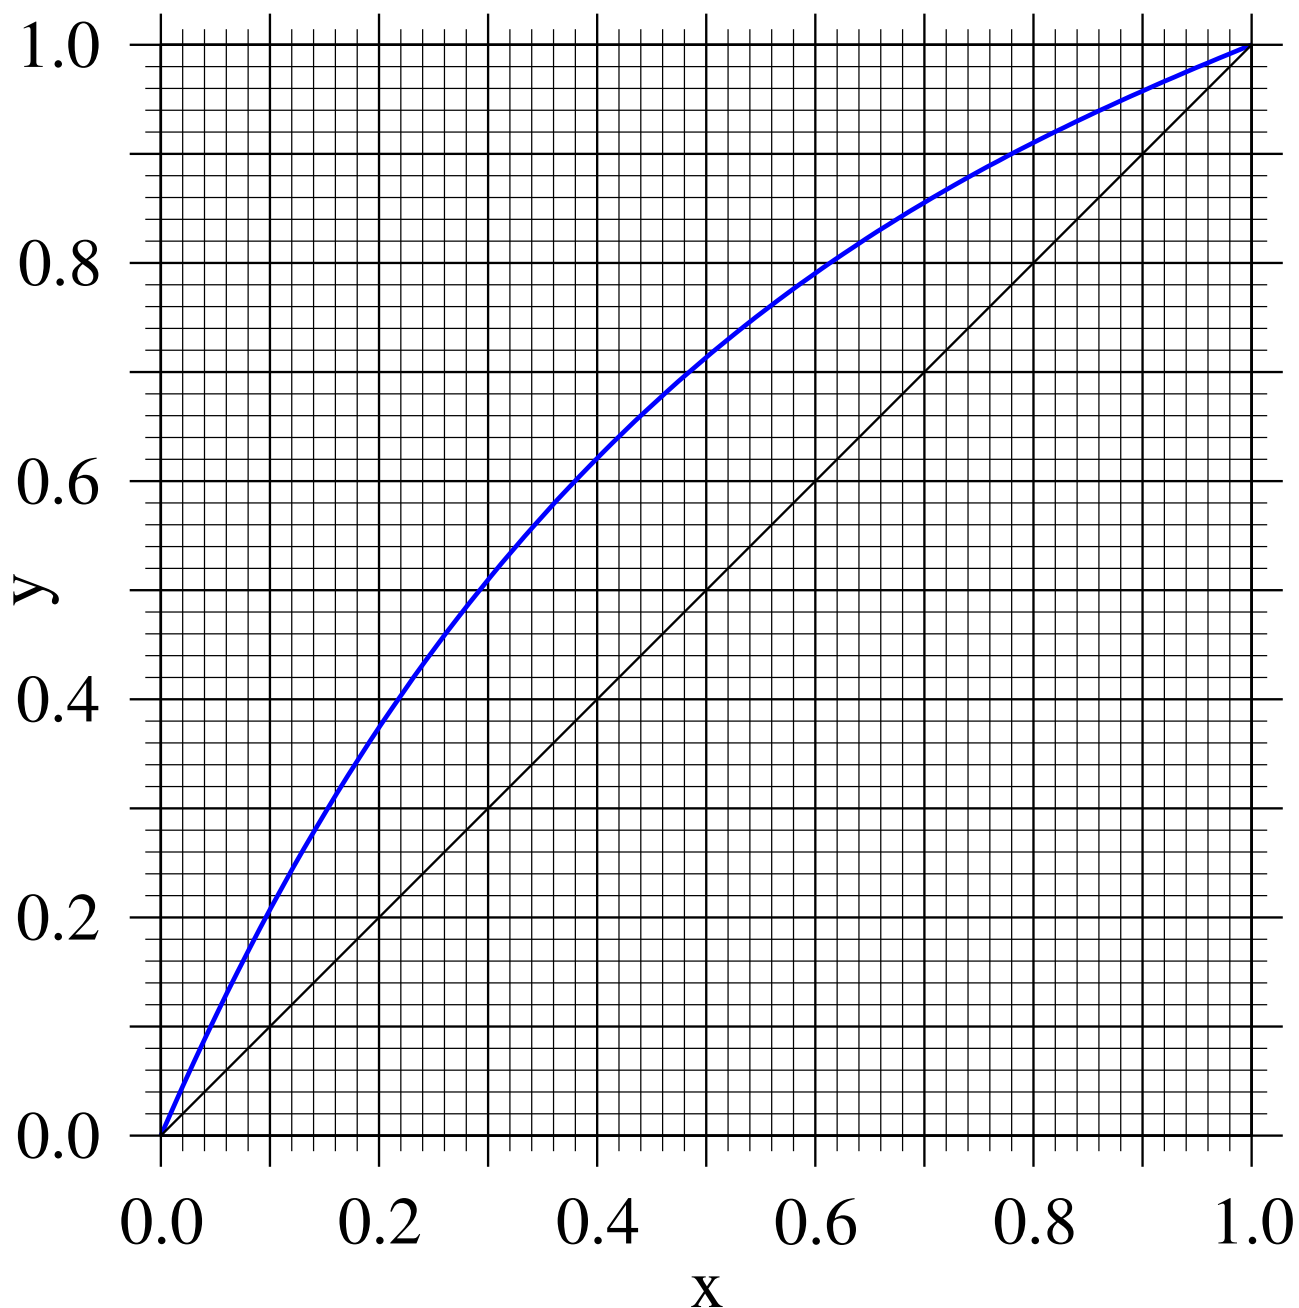
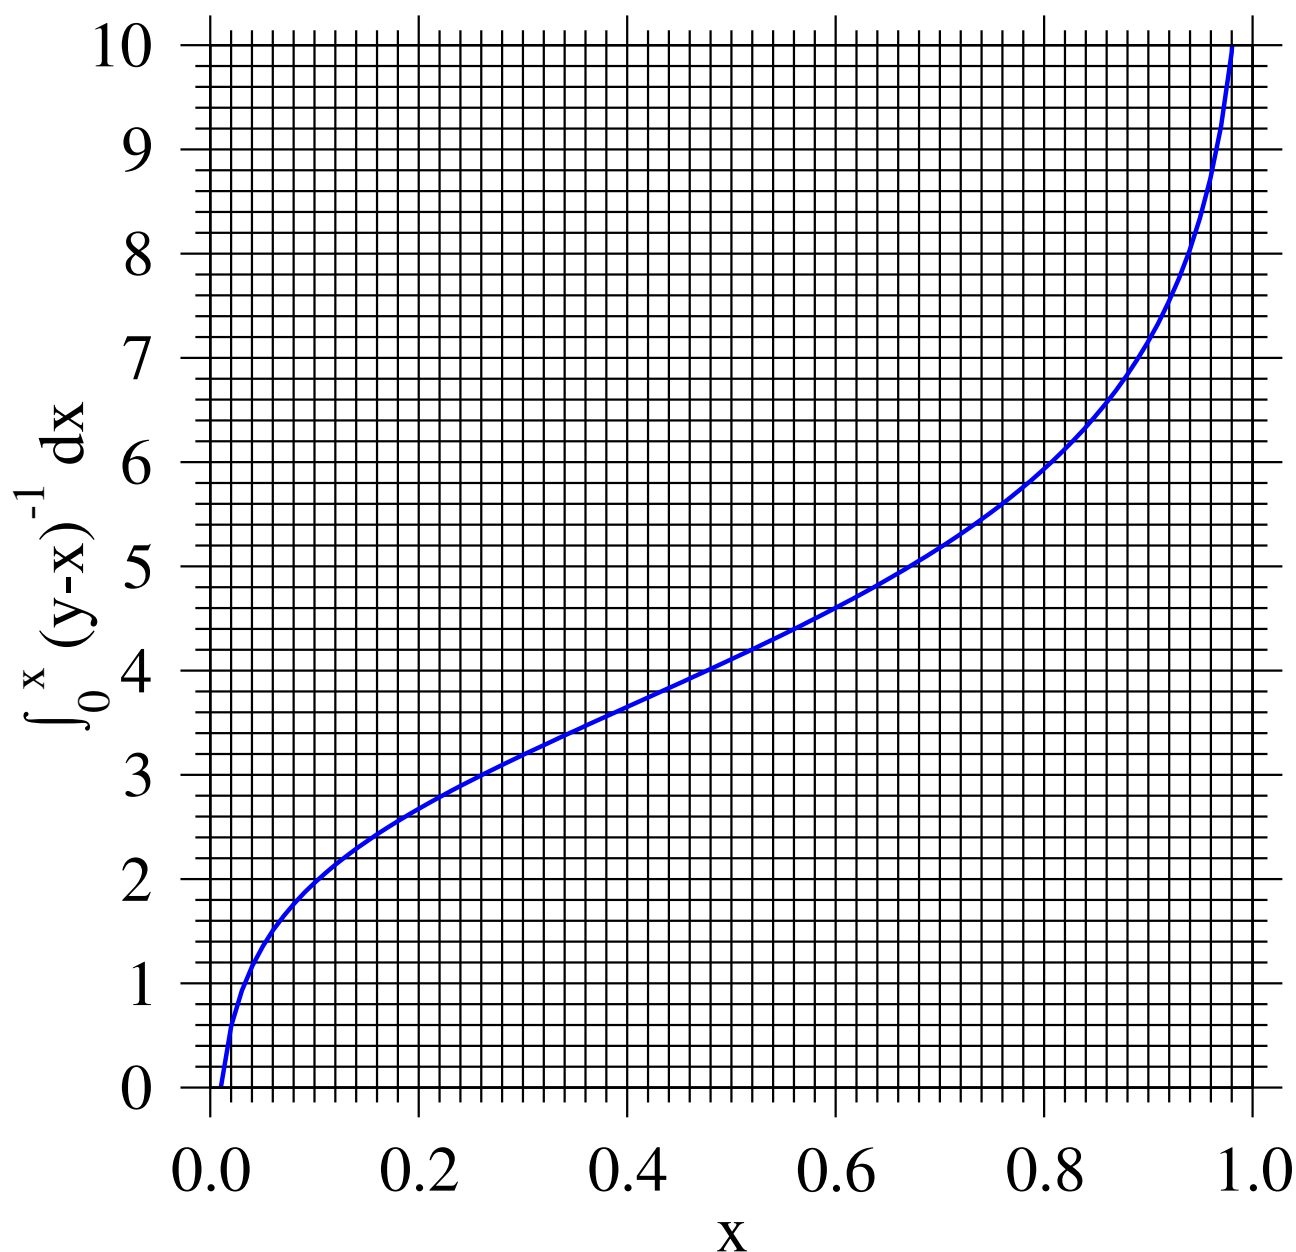

Figure 12: VLE data for benzene(x/y)-toluene mixtures. For use in Q. 5.19, 5.20, and 7.30.
Figure 13: Integrated VLE data for benzene(x/y)-toluene mixtures. For use in Q. 5.19 and 5.20.
a) What is the outlet concentration of the vapour and liquid streams from a flash drum? The flash drum is operated so that only 20% of the feed stream is vapourised. x - y VLE data is available in Fig. 12. **[7 marks]**
b) What is the average vapour concentration and the final liquid concentration if the same feed is supplied to a single-stage batch still instead? You should assume the same proportion of vapour is produced as in the flash drum. Integrated VLE data is available in Fig. 13 for this calculation. **[8 marks]**
A 10,000 kmol benzene-toluene mixture is sent for batch distillation at atmospheric pressure. Integrated VLE data is available in Fig. 13 and standard VLE data is available in Fig. 12.